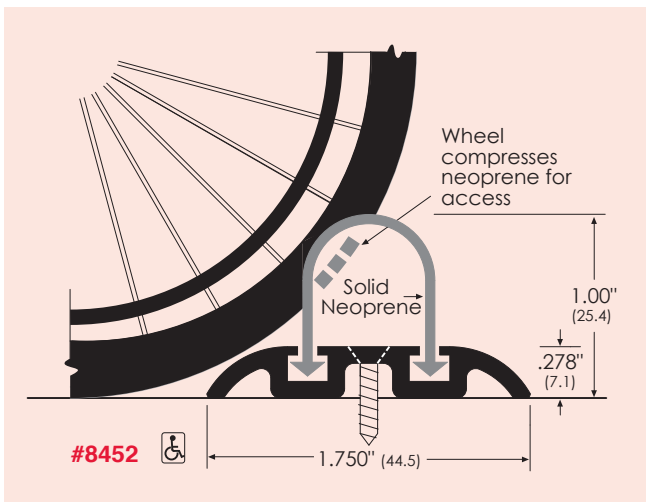

Figure 4: The neoprene gasket in this shower threshold keeps water in while allowing wheelchair wheels to pass over easily.
- **Wheelchair-accessible shower thresholds** (Figure 4): Intended to eliminate the need for curbs or other dividers that might impede wheelchair access,